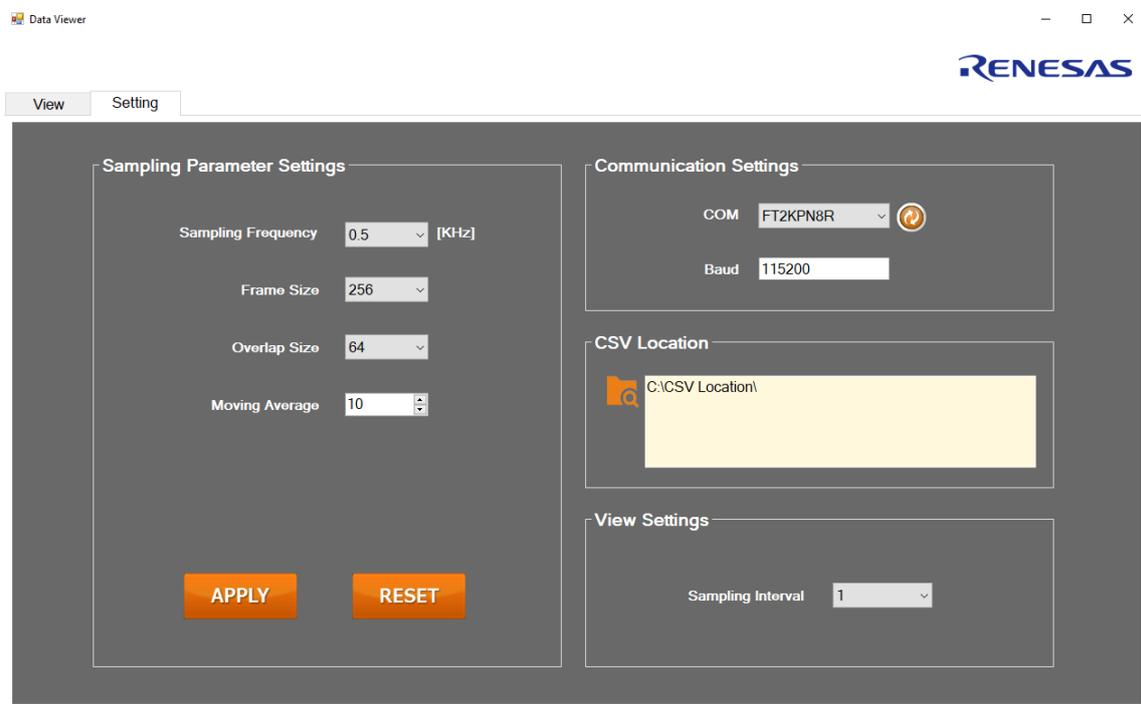

Figure 11 Data Collection Tool parameter settings
- **Figure 11 shows the parameter setting and communication settings of Data Collection Tool for RX23T.**